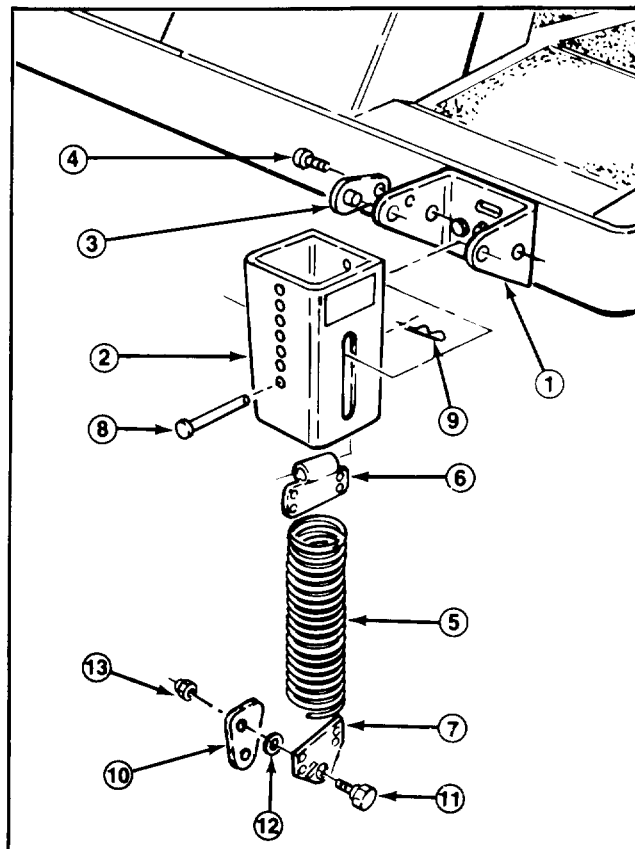

Figure 11
2. Thread the top extension spring coil into the top spring end holes and the bottom extension spring coil into the bottom spring end holes (Fig. 11).
A. GM 220-D and 224 models — With wide part of knee link pointing rearward, secure it to outer side of lower spring end with a shoulder bolt, flatwasher and locknut. Flatwasher to be positioned between spring end and knee link (Fig. 11, 12).
B. GM 220 models — With wide part of knee link pointing forward, secure it to outer side of lower spring end with a shoulder bolt, flatwasher and locknut. Flatwasher to be positioned between spring end and knee link (Fig. 11, 12).
5. Align slotted holes in the spring cover (slot toward the bottom) with the mounting bracket holes. Insert lock pin assemblies into the bracket holes and secure each to the bracket with self-tapping screws (Fig. 11). Torque the screws to 20 ft-lb.
6. From the bottom, insert the spring and top spring end into the spring covers. Select a hole that matches the cutter deck height-of-cut hole setting; i.e., top cover hole matches highest height setting, bottom cover hole the lowest, etc. Align the top spring end hole with the selected spring cover holes and insert the clevis pin to secure the spring inside the cover (Fig. 11). Secure the clevis pin with the hair pin cotter (Fig. 11).